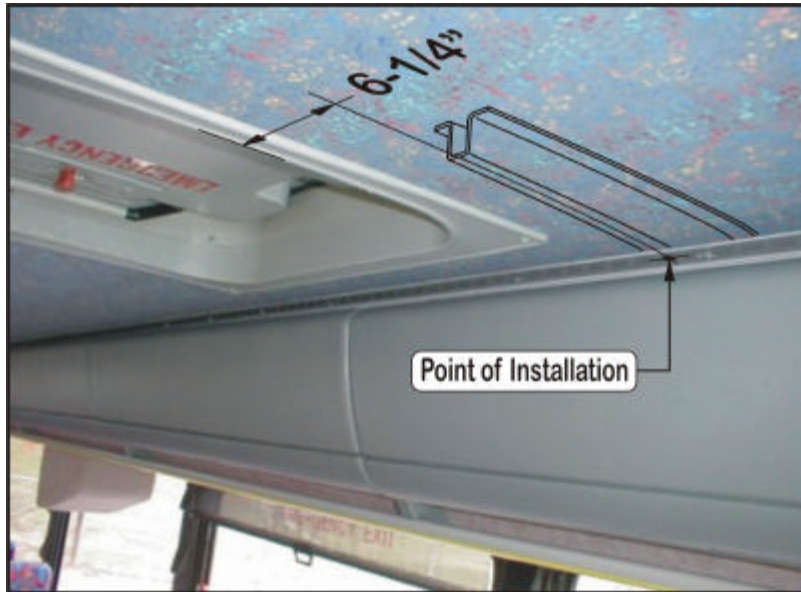

Figure 1
4. Locate the centerline of the roof bow forward of the front roof hatch by measuring 6 1/4" from the inside of the front hatch forward. See Figure 1. Now locate the intersection of this roof bow with the outside aisle support for the parcel rack on both the right and left side of the coach. Mark this intersection.